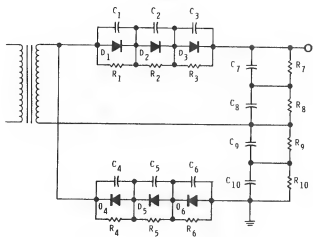

Figure 4-24
6. Identify the circuit shown in Figure 4-24. _____
7. What is the purpose of connecting D_1, D_2 and D_3 in series in Figure 4-24? _____
8. What is the purpose of C_1-C_3 and R_1-R_3 in Figure 4-24? _____
9. What is the purpose of connecting C_7 and C_8 in series in Figure 4-24? _____
- The circuit shown in Figure 4-24 is a full-wave voltage doubler.
- The purpose of C_1 - C_3 and R_1 - R_3 in Figure 4-24 is diode protection. C_1 - C_3 provide transient protection, while R_1 - R_3 equalize the inverse voltage across the diode.